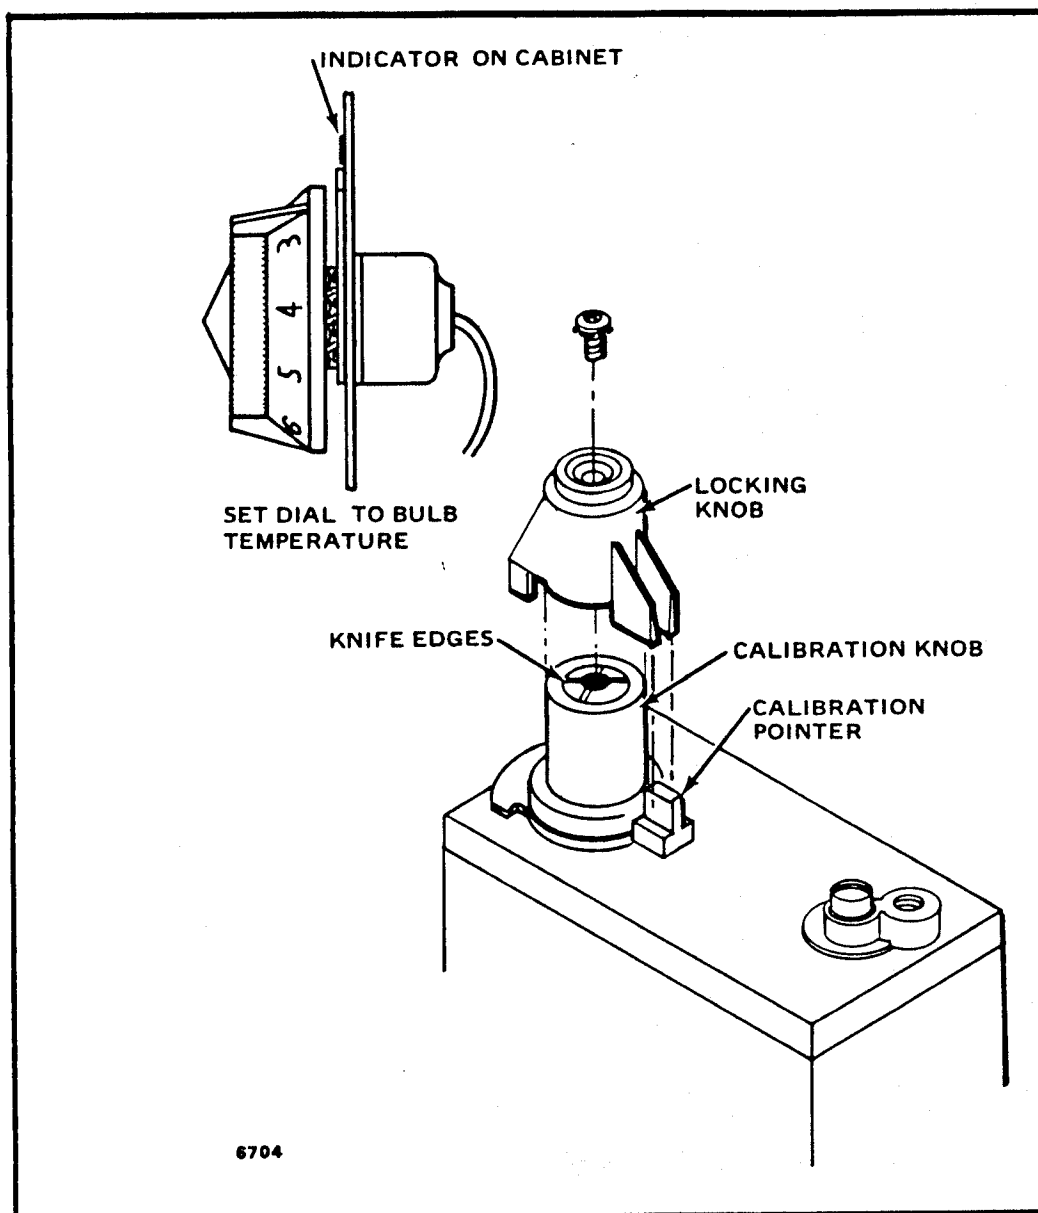

Fig. 25—Calibrating V500 with remote dial.
4. a. If the burner remains on, turn the metal calibration knob (Fig. 25) slowly clockwise  until the burner snaps off.
b. If the burner turns off, turn the metal calibration knob (Fig. 25) slowly counterclockwise  until the burner snaps on.